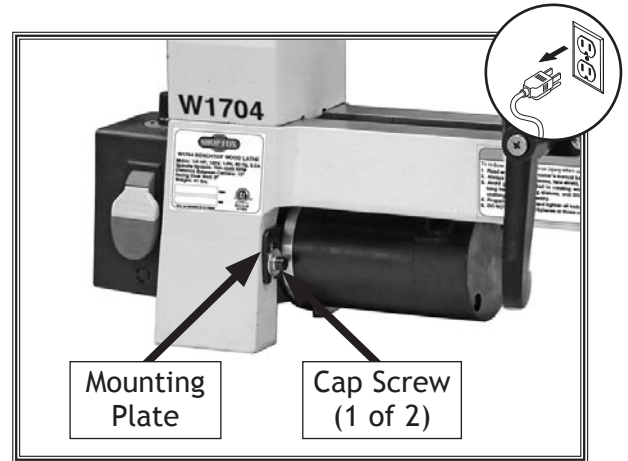

Figure 36. Location of motor mounting plate.
2. Loosen (2) M6-1 x 1 cap screws on motor mounting plate (see **Figure 36**).